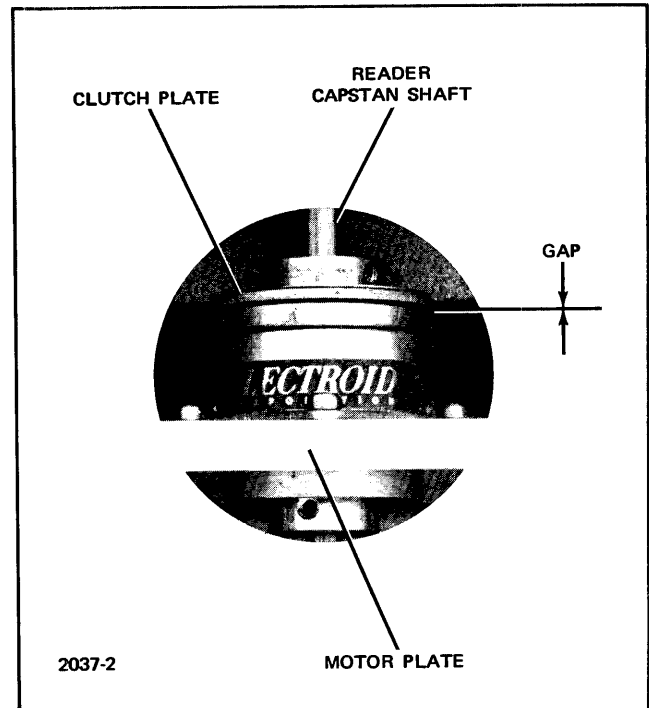

Figure 4-2. Clutch Adjustment
a. With a feeler gauge, check clutch gap and adjust, if necessary, for a 0.010 ± 0.005 -inch gap. Adjust gap by loosening screw in clutch plate, setting clutch plate on capstan shaft for proper clearance, and tightening screw in clutch plate. (See figure 4-2.)